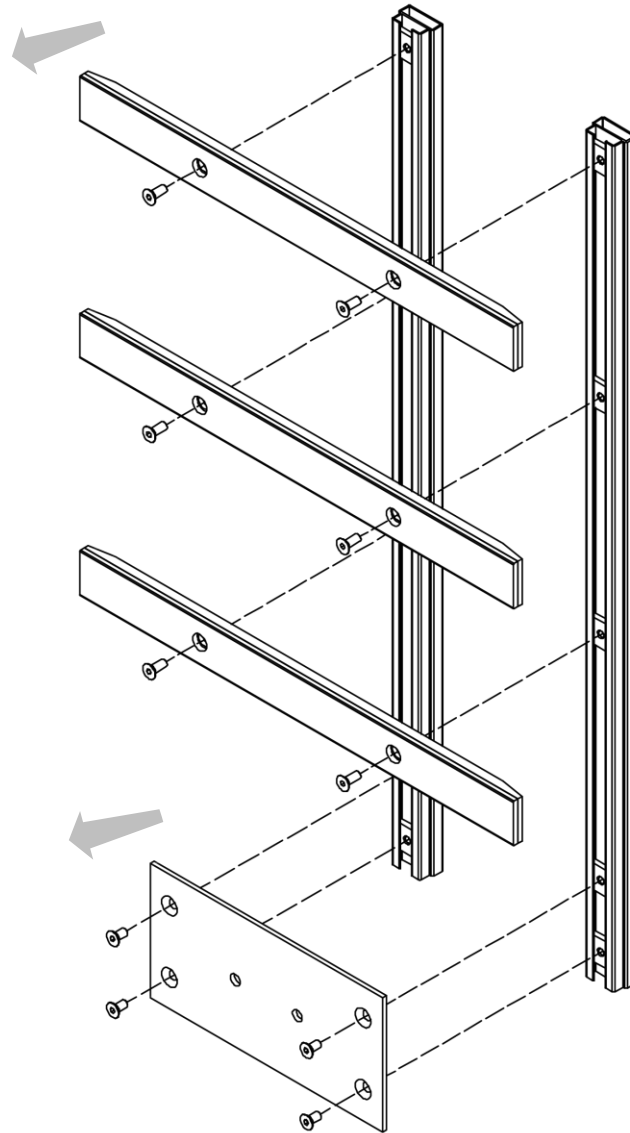

Figure 59
5. Use *Figure 59* as a guide.